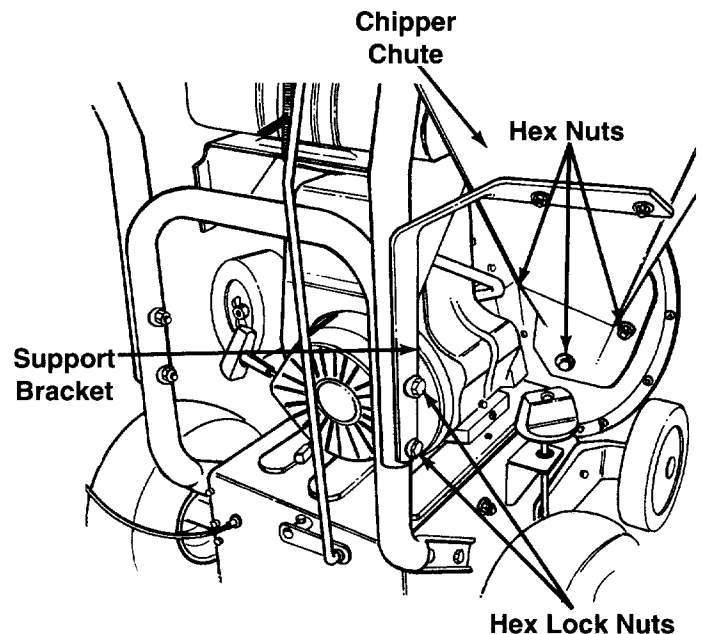

FIGURE 4.—View from the operator's position
- Remove the two hex lock nuts from the hex bolts which secure the right side of the upper handle to the lower handle. Leave the bolts in place. See figure 4.
- Remove the three cupped washers and hex nuts from the weld studs. You will find these weld studs beside the opening on the right side of the chipper vacuum. See figure 4.
- Place the chipper chute over the weld studs. Secure with cupped washers and hex nuts that you earlier removed. See figure 4. Do not tighten it all the way.
- Remove the two hex bolts, flat washers, and nuts which are attached to the support bracket. See figure 4.